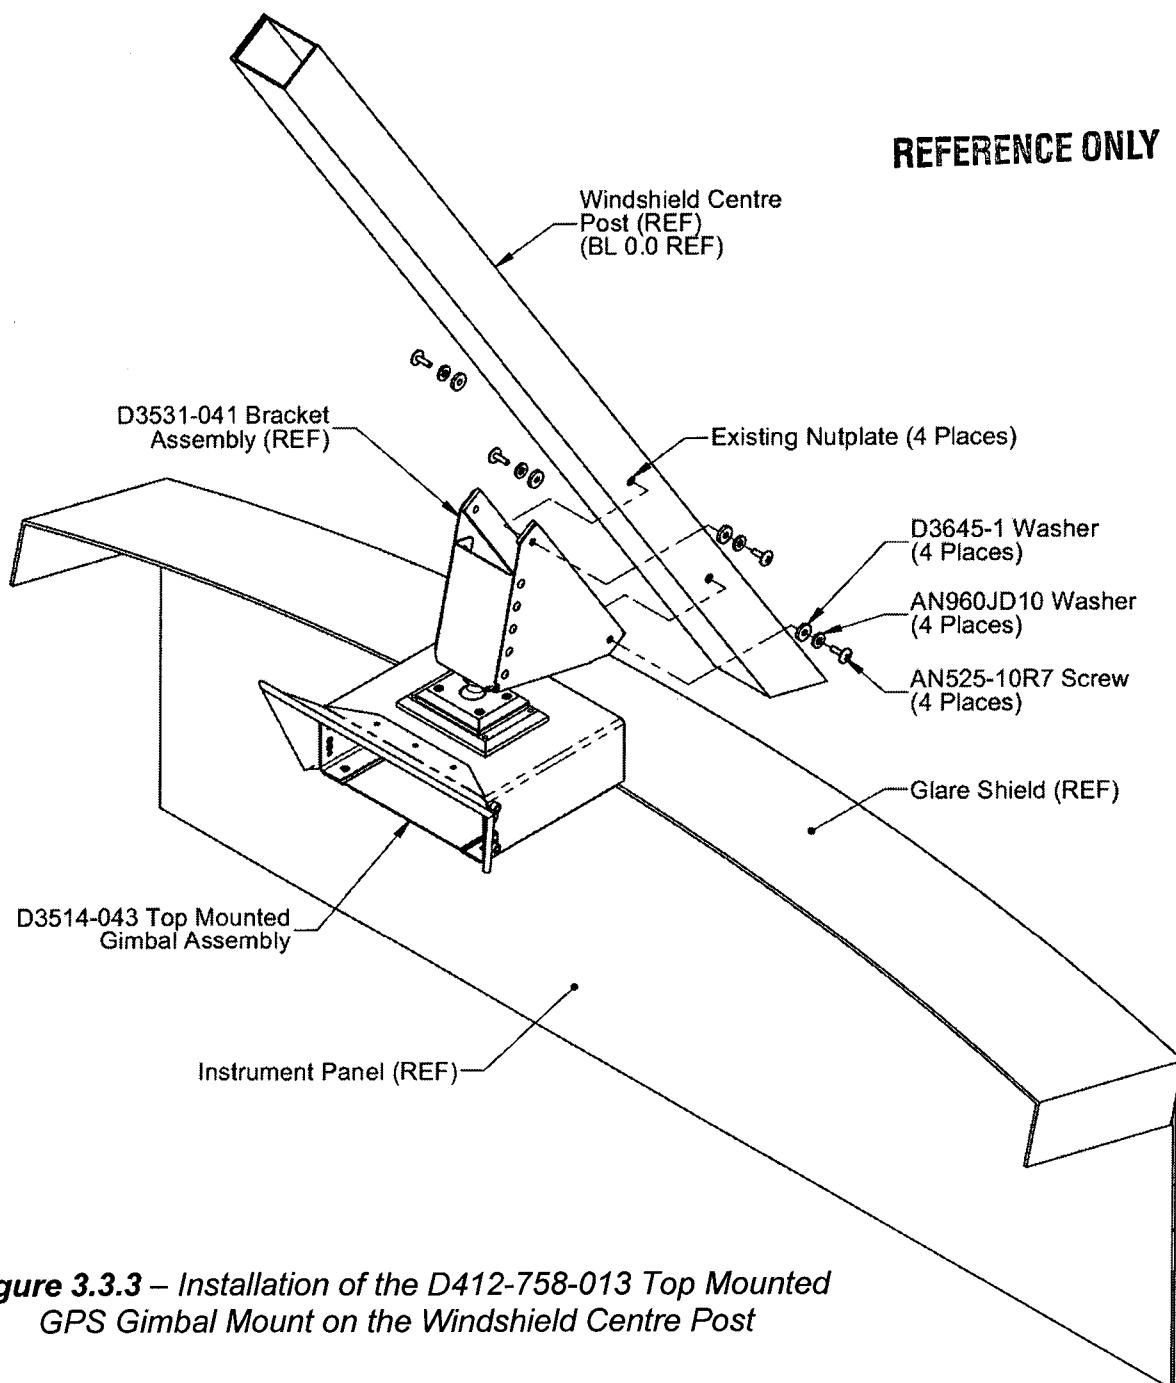

Figure 3.3.3 – Installation of the D412-758-013 Top Mounted GPS Gimbal Mount on the Windshield Centre Post
3.3.5 Install the D3514-043 Top Mounted Gimbal Assembly on the windshield centre post using qty(4) AN525-10R7 screws, qty(4) AN960JD10 washers and qty(4) D3645-1 Washers as shown in **Figure 3.3.3**. Pick up on the existing nutplates mounted on the inside of the windshield centre post. Torque the bolts to 15-25 in-lbs (1.7-2.8 Nm).